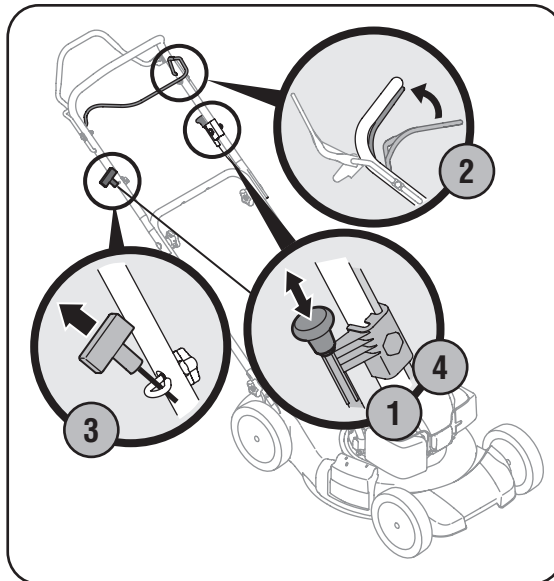

Figure 4-2: Starting the mower.
1. Pull out the choke knob located on the left side of the upper handle. See Figure 4-2.
3. Pull the recoil starter lightly until resistance is felt, then pull rapidly to overcome compression, prevent kickback, and start the engine. Repeat if necessary. See Figure 4-2.